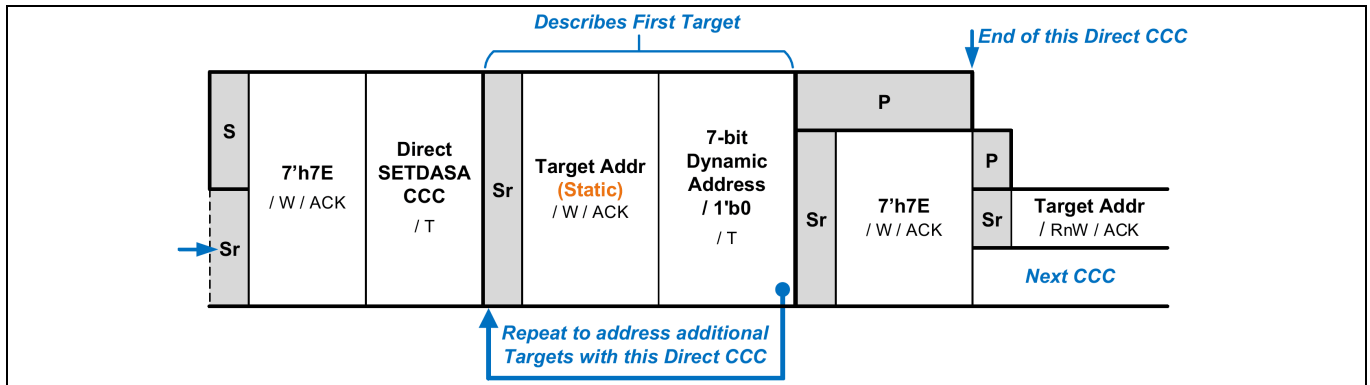

Figure 27 SETDASA Command Structure
*Note: For this device version it is not possible to repeat the command part 'Target Addr' and 'Dynamic Address' as stated in Figure 27. Instead the SETDASA direct command must end after this part. In other words: for each Target an individual SETDASA command has to be used.*